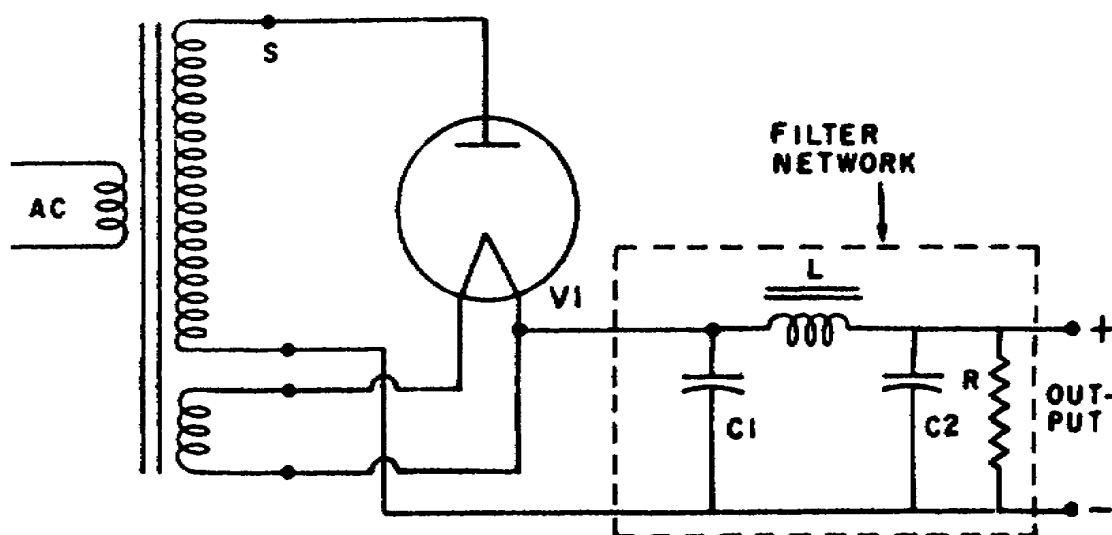

Figure 91. Filter network added to a half-wave rectifier.
13. Look at the complete electrical circuit of figure 91. Filtering is accomplished by connecting capacitors, choke coils (inductors), and resistors in the proper manner. If a filter circuit is added to the half-wave rectifier, a satisfactory degree of filtering can be obtained. Capacitors C_1 and C_2 have a small reactance at the a.c. frequency, and they are connected across the load resistor, R . These capacitors will become charged during the positive half-cycles as voltage is applied across the load resistor. The capacitors will discharge through R and L during the negative half-cycles, when the tube is not conducting, thus tending to smooth out, or filter out, the